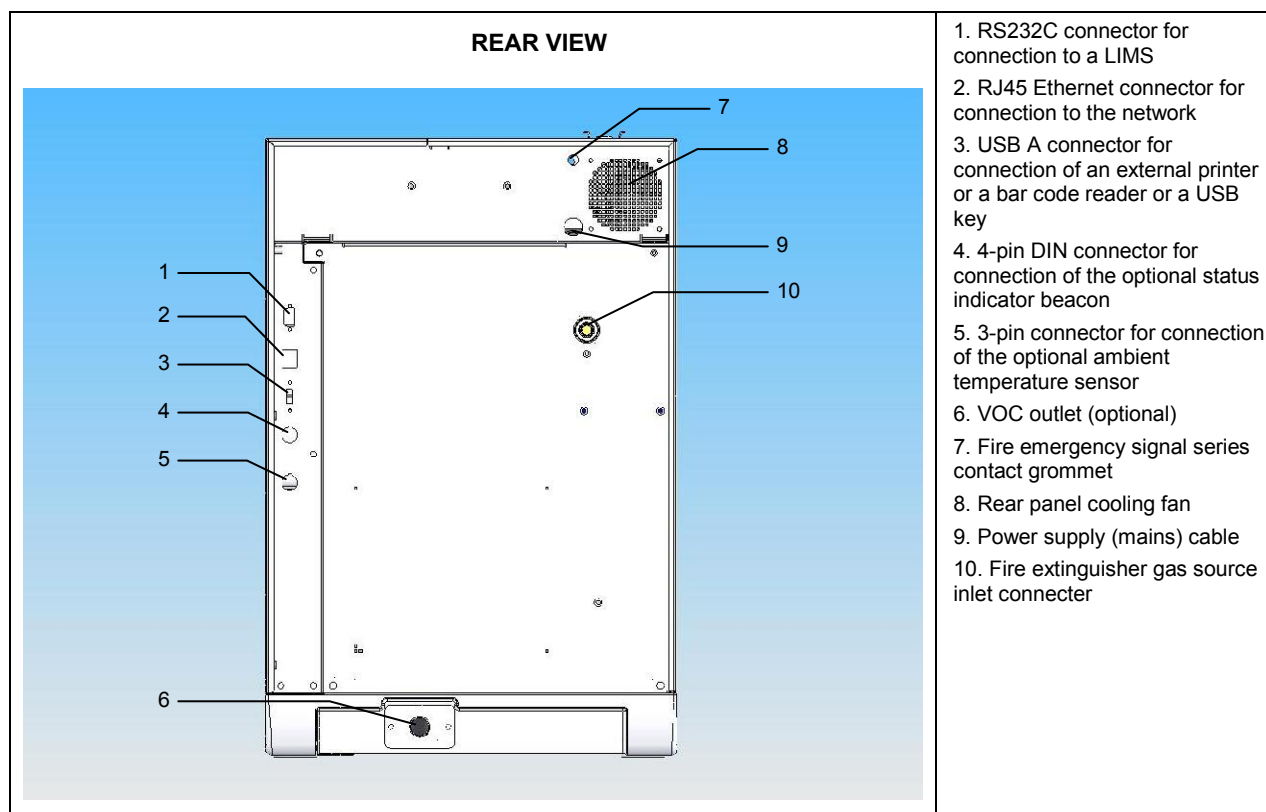
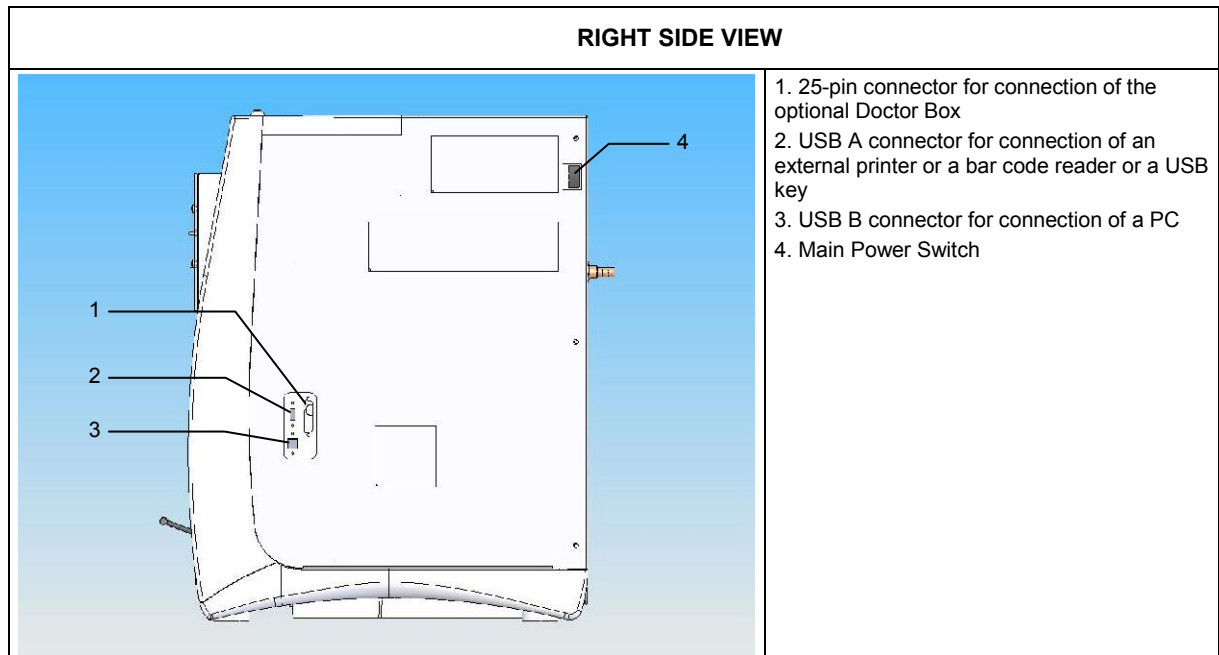

Figure 1-3: AD86 5G2 – Rear view
Figure 1-5: AD86 5G2 – Right side view
Connect the CO₂ gas source to the connector (9) at the rear of the analyzer: see Figure 1-3 page 1-30.
OptiDist™ analyzer connects to the Alan® or HLIS-32® network on a Server PC via a Router through the RJ45 Ethernet connector (2) located at the rear of the analyzer (see Figure 1-3 page 1-30). The OptiDist™ connection to the Router is plug and play. The analyzer is automatically detected. Connection of the PC to the LIMS can be done either by RS232 or Ethernet 2 connection (Ethernet 2 connection has to be done from an IT specialist in the laboratory).
Connect the LIMS to the connector (1) at the rear of the analyzer: see Figure 1-3 page 1-30.
Connect the ambient temperature probe to the connector (5) located at the rear of the analyzer (see Figure 1-3 page 1-30).
☛ If the VOC Control option (Volatile Organic Component) is factory installed, connect an exhaust pipe to the outlet (6) at the rear of the analyzer (see Figure 1-3 page 1-30) and link it to a fume hood.
Connect it to the connector (4) at the rear of the analyzer (see Figure 1-3 page 1-30).
Connect the external printer to the USB A port (2) on the right side of the analyzer (see Figure 1-5 page 1-31) or to the USB A port (3) at the rear of the analyzer (see Figure 1-3 page 1-30).
Connect the bar code reader to the USB A port (2) on the right side of the analyzer (see Figure 1-5 page 1-31) or to the USB A port (3) at the rear of the analyzer (see Figure 1-3 page 1-30).
Push the Main Power Switch (4) on the right side of the analyzer to the up or ON position (see Figure 1-5 page 1-31).